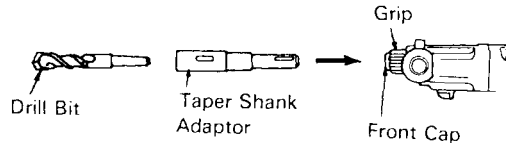

Fig. 11
- Mount the taper shank adaptor to the rotary hammer. (Fig. 11)
- Mount the drill bit (taper shank) to the taper shank adaptor. (Fig. 11)